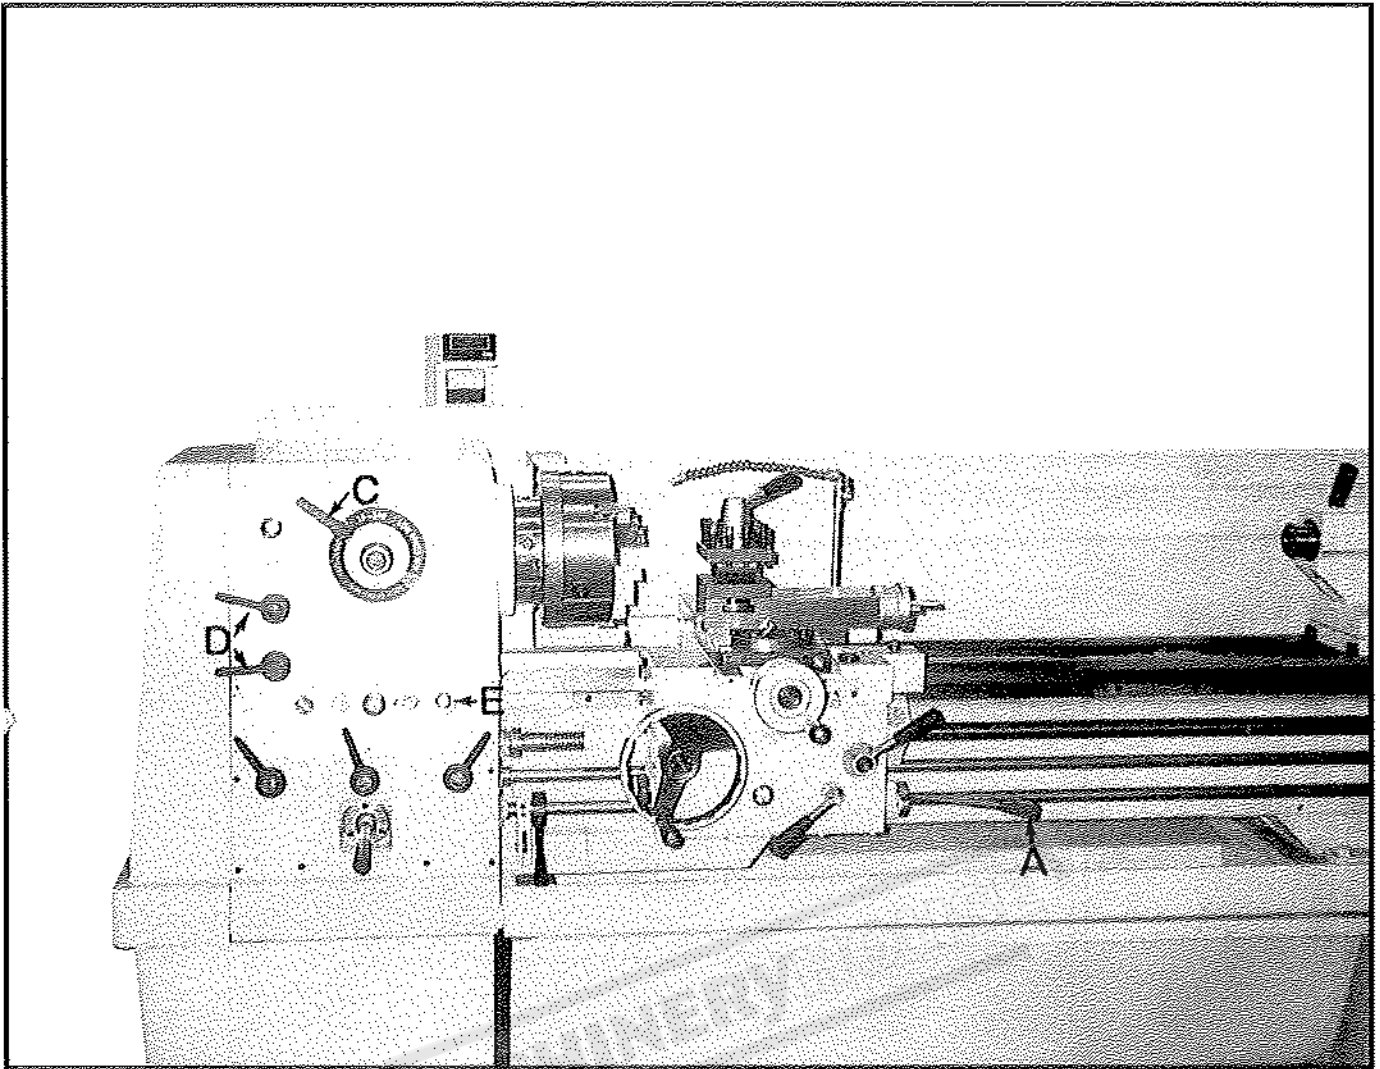

Fig.9.1
**Spindle Rotation:** Selected by the control levers A (Fig.9-1). The apron lever A for Forward-Off-Reverse selection. To move lever A out and downward to engage forward rotation of spindle; or upward to engage reverse rotation. Return to neutral position for spindle stop and off power to motor.
**SPINDLE SPEEDS:** A spindle speed selector lever (C) on the headstock provides High and Low Speed ranges selection. STOP THE SPINDLE First and then rotate the selector (C) to engage "HIGH" or "LOW" speed ranges.